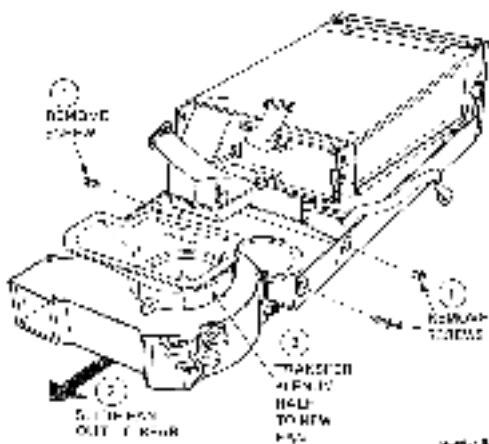

Figure 4-23 Removing the Cooling Fan
2. Remove three fan retaining screws, one at right rear and two at left rear (Figure 4-23).
2. Replace three fan retaining screws, one at right rear and two at left rear (Figure 4-23). Hold rubber shock mounts on fan assembly in place with long-nosed pliers.